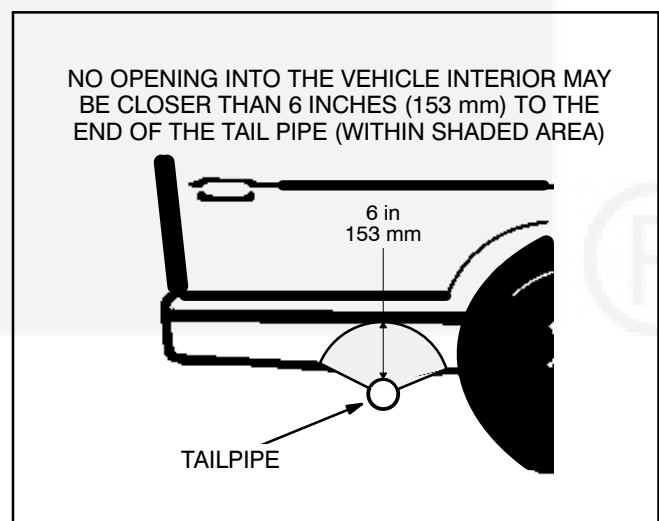
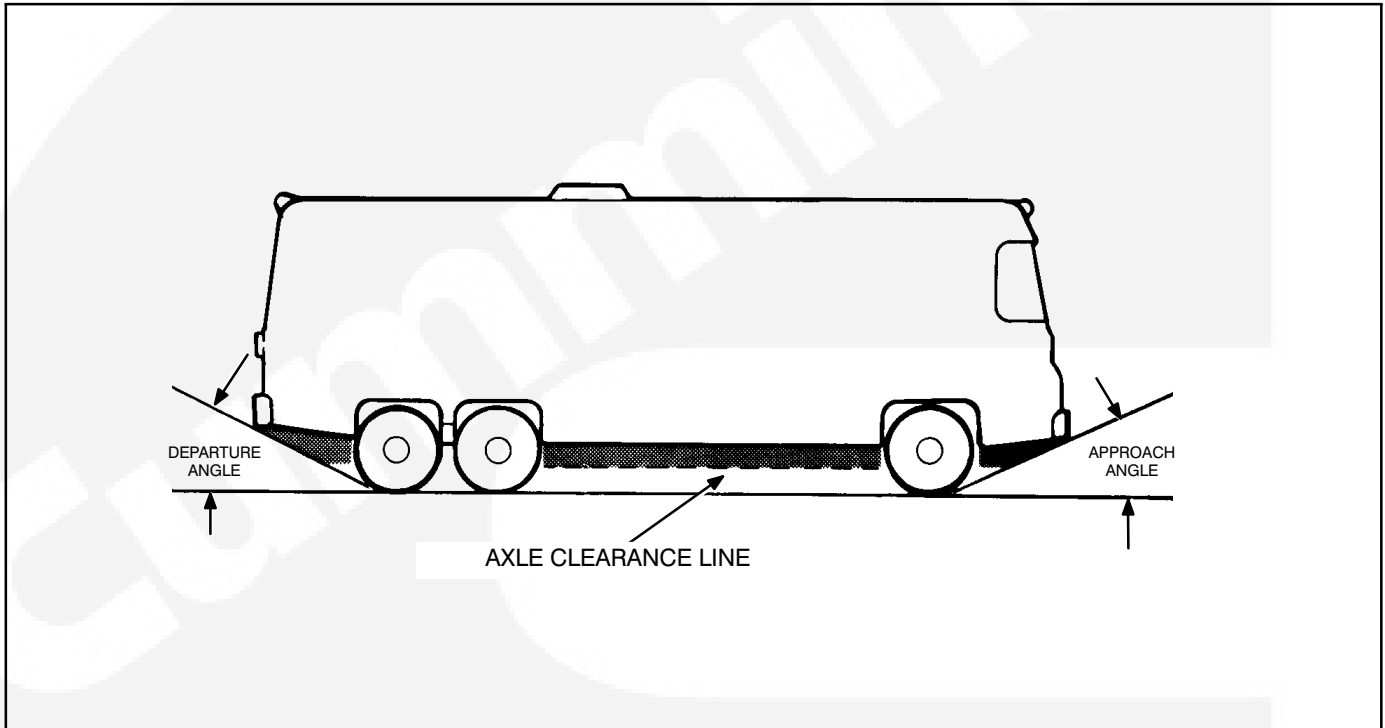

FIGURE 6. MINIMUM DISTANCES TO OPENINGS
FIGURE 7. APPROACH AND DEPARTURE ANGLES AND AXLE CLEARANCE LINE
⚠️ WARNING *EXHAUST GAS IS DEADLY! To keep exhaust gases from entering the vehicle do not terminate the exhaust tailpipe underneath the vehicle or closer than specified to openings into the vehicle (Figure 6) or route it such that it is likely to be damaged (Figure 7). Use approved materials and parts only.*
9. Do not terminate the tailpipe such that it is closer than 6 inches (153 mm) to any opening into the vehicle interior (door, window, vent). See Figure 6.
10. Route the tailpipe such that it is not likely to be struck when the vehicle is moving. Keep it out of the approach and departure angles of the vehicle and above the axle clearance line (Figure 7).